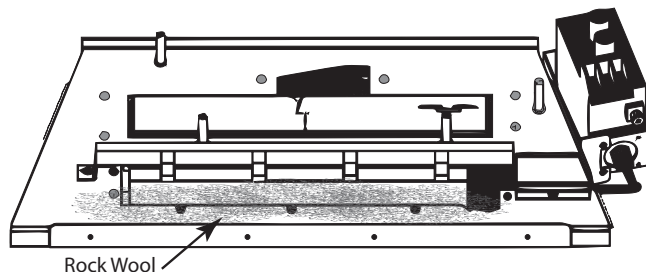

Figure 6.10 - Installing Rock Wool
1. Before installing logs, place rock wool in front of the grate. Loosely apply nickel size pieces to allow the gas to flow through for proper burn and not to be obstructed. Failure to do so would cause a higher level of CARBON MONOXIDE. See Figure 6.10.